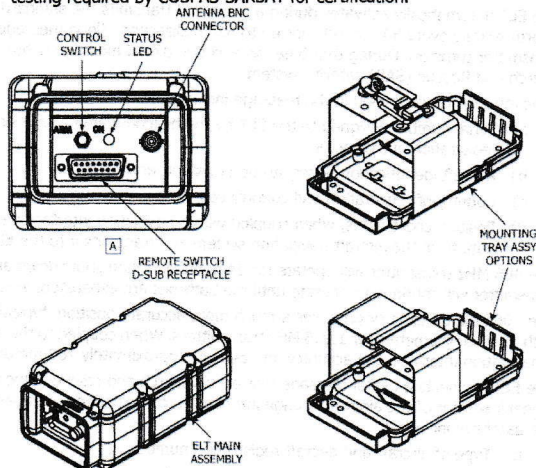

Figure 2 ME406 Series ELT and Mounting Tray Assembly
- 1) The ME406 Series ELT main assembly is housed in a high impact, fire resistant, polycarbonate case and mounted in a tray made of similar material. See Figure 2 ME406 Series ELT and Mounting Tray Assembly.